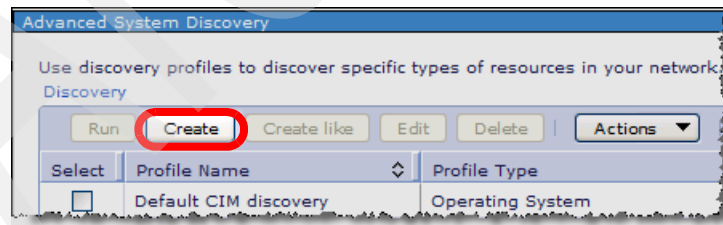

Figure 5-17 Advanced System Discovery panel
2. Click **Create** to create a new profile for PDU units discovery in IBM Systems Director, as shown in Figure 5-17.
2. Click **Create** to create a new profile for SynapSense SNMP agent discovery in IBM Systems Director as shown in Figure 5-17 on page 157.
2. Click **Create** to create a new profile for discovering System z HMC in IBM Systems Director as shown in Figure 5-17 on page 157.